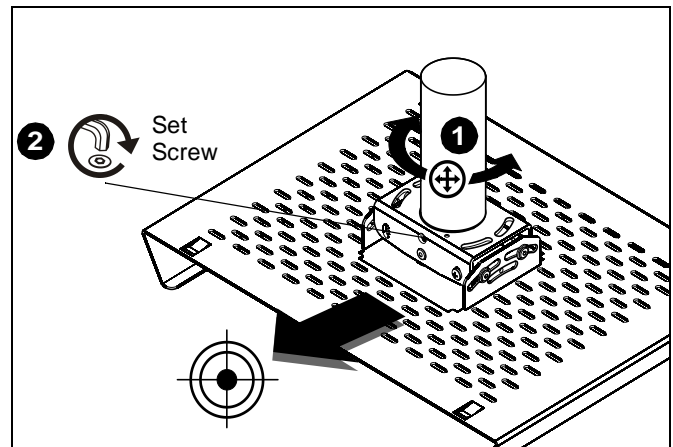

Figure 4
1. Turn RPAA1 sleeve clockwise or counterclockwise until the front of the RPAA1 is facing target. (See Figure 4)
2. Tighten set screw. (See Figure 4)